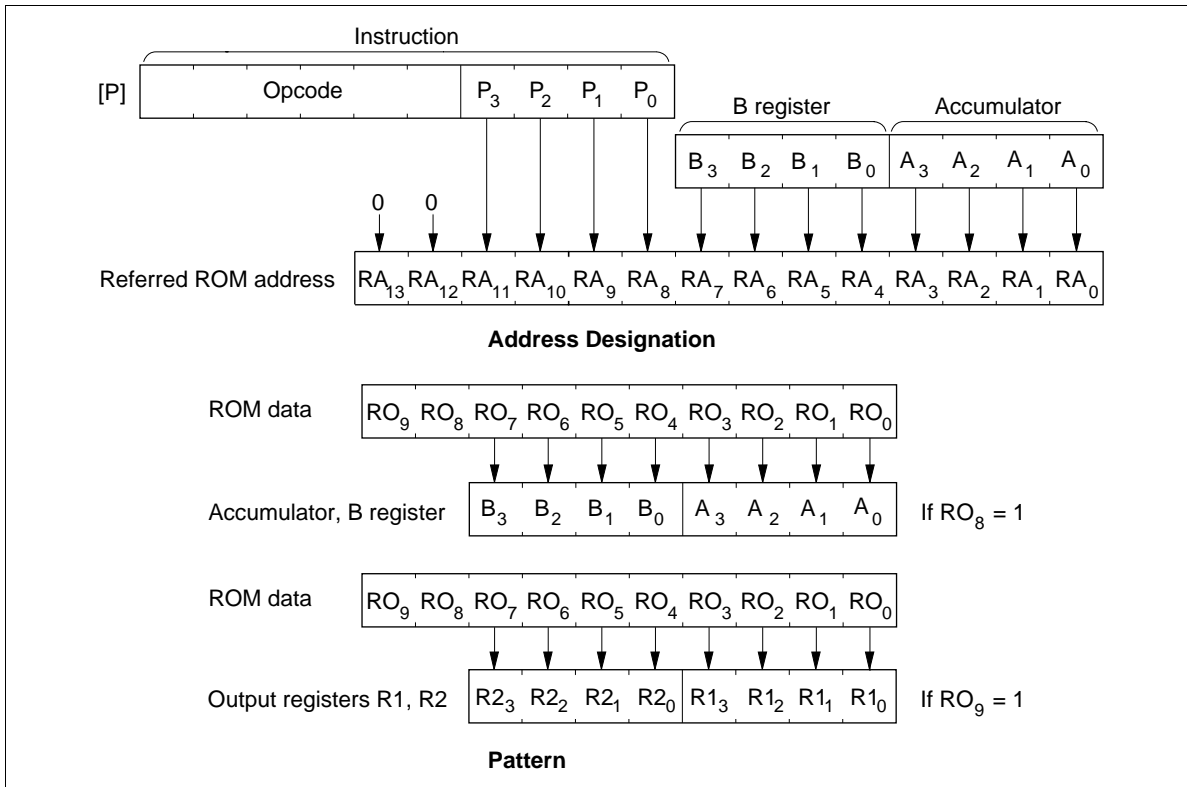

Figure 42 P Instruction
**P Instruction:** ROM data addressed by table data addressing can be referenced by the P instruction (figure 42). When bit 8 in the referred ROM data is 1, eight bits of ROM data are written into the accumulator and B register. When bit 9 is 1, eight bits of ROM data is written into the R1 and R2 port output registers. When both bits 8 and 9 are 1, ROM data is written into the accumulator and B register, and also to the R1 and R2 port output registers at the same time.